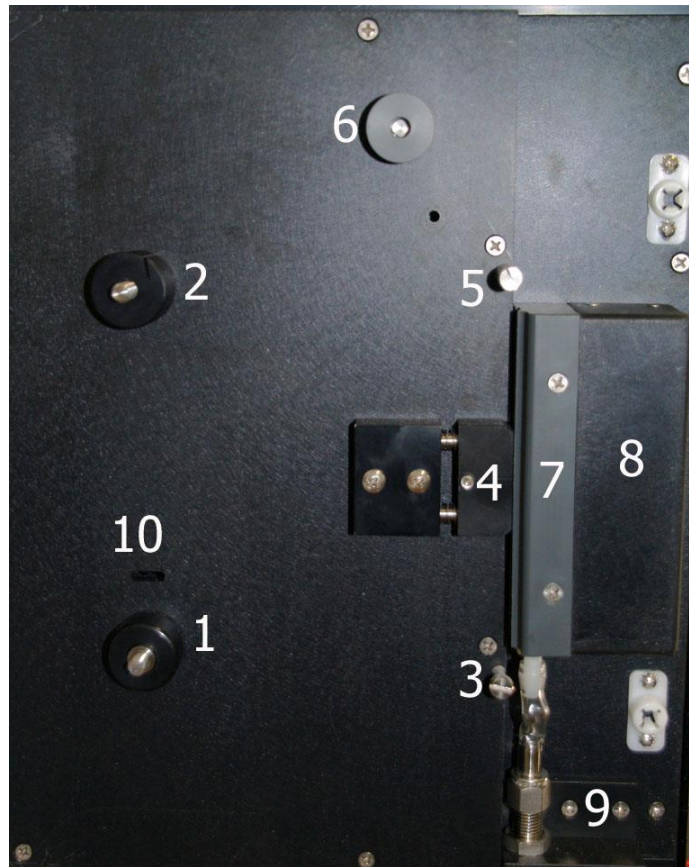

Figure 7-2: Tape Enclosure Parts Reference
- d) Remove the tape cover from the left side of the chassis to view the tape enclosure. Figure 7-2 presents the open enclosure with various components identified. .
- e) Remove the screw-on disks (not shown) from the supply reel (1) and take-up reel (2).
- g) Thread the tape over the lower sample chamber guide pin (3). Push the compression head (4) back and slide the tape behind the compression head. Ensure that the tape is flat against the groove in the sample chamber (8) and has no creases.